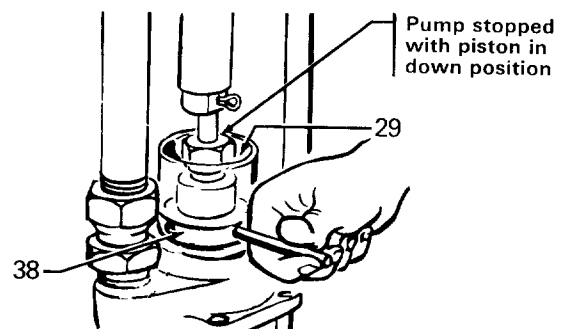

Fig 2
When operating the pump non-immersed, keep the wet-cup (38) filled with Graco Throat Seal Liquid (TSL). See Fig 2.